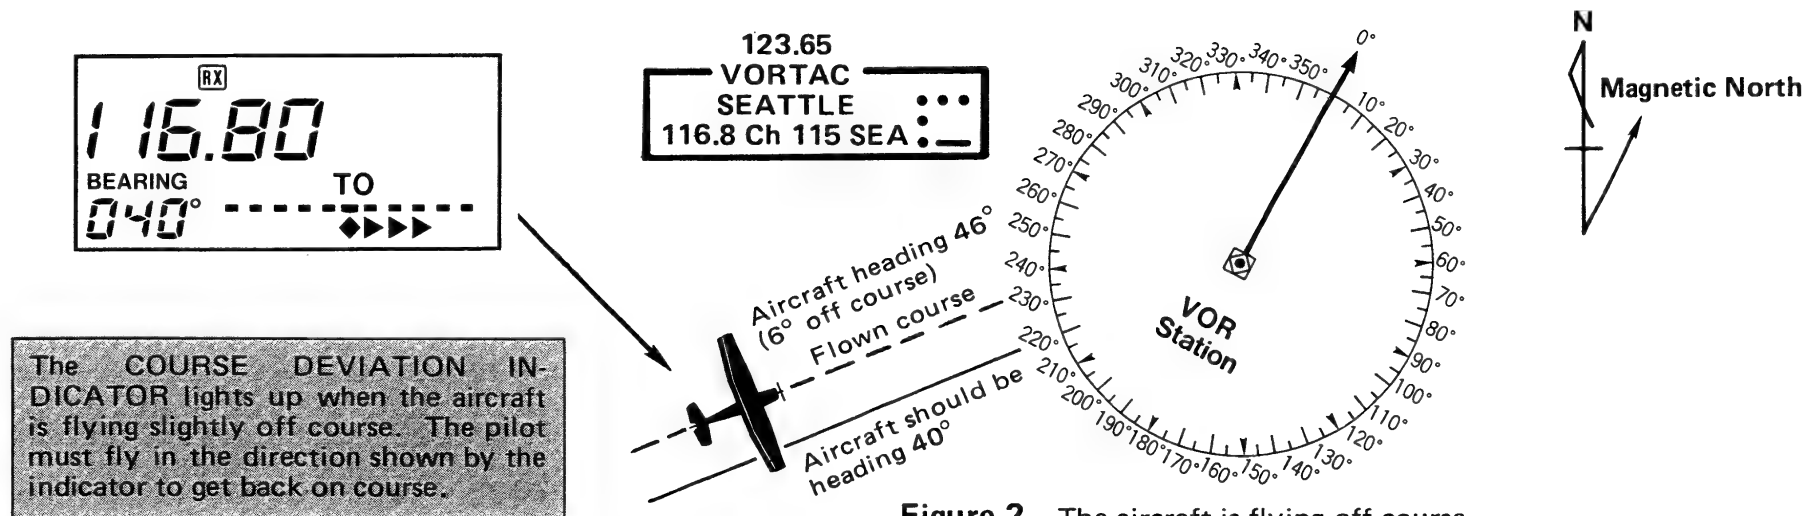

Figure 2 The aircraft is flying off course
- "▶▶▶▶▶" appears on the FUNCTION DISPLAY when your aircraft is off the desired course. (See Figure 2)